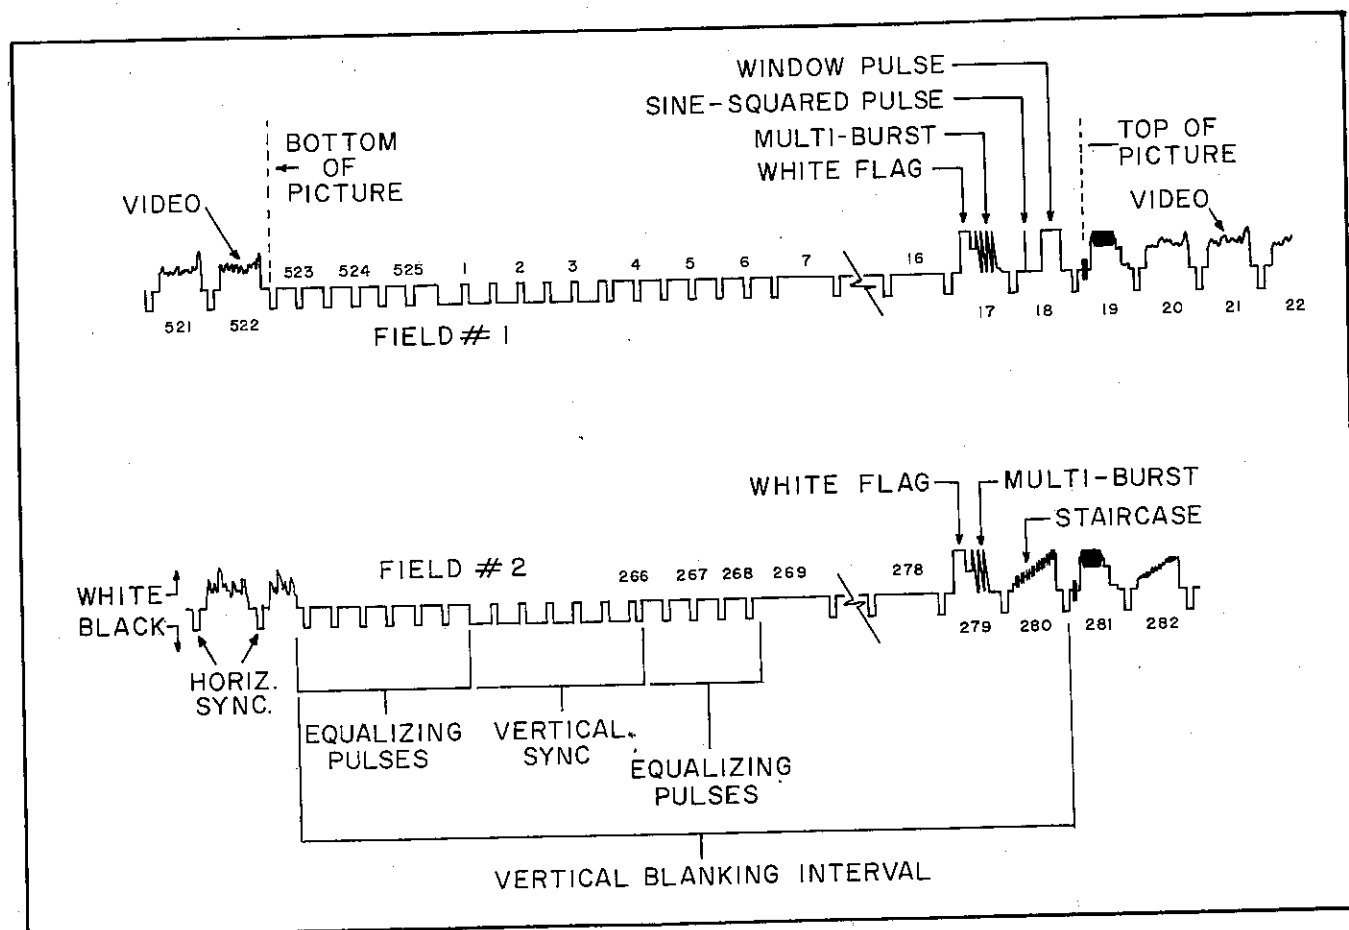

Fig. 18. Vertical blanking interval showing typical VITS and VIR information.
The transmitted VITS and VIR are precision sequences of specific frequencies, amplitudes, and waveshapes. The television networks use the precision signals for adjustment and checking of network transmission equipment, but the technician can use them to evaluate television set performance. The make-up of the VITS varies from one broadcast station to another. Figs. 18 and 19 show typical VITS signals. The VITS normally contain a "multiburst" signal which typically begins with a "flag" of white video, followed by sine wave frequencies of 0.5 MHz, 1.5 MHz, 2 MHz, 3 MHz, 3.6 MHz, (3.58 MHz) and 4.2 MHz. The multiburst may appear on line 17 or 18, and may be repeated on line 279 or 280. As seen on the television screen, field #1 is interlaced with field #2 so that line 17 is followed by line 279 and line 18 is followed by line 280. The VITS and VIR appear at the end of the vertical blanking interval and just before the first line of video. The VIR signal is transmitted on lines 19 of fields #1 and #2 (line 19 of field #2 also is identified as frame line 281).
9. Set the SWEEP TIME/CM control to the .1 mS/cm position. This expands the display by increasing the sweep speed. The vertical interval information will appear toward the right hand portion of the expanded waveform displays. The waveform information on each trace may appear as shown in the drawings of Fig. 18. Because there is no provision for synchronizing the oscilloscope display to either of the two fields which comprise a complete vertical frame, it cannot be predicted which field display will appear on the Channel A or Channel B display.